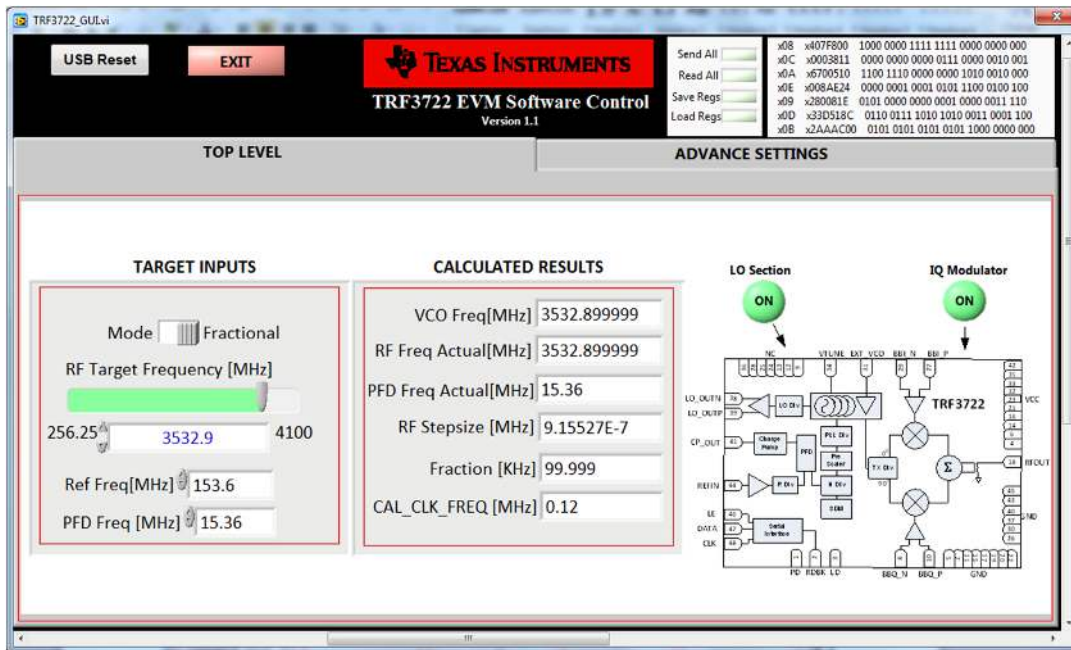
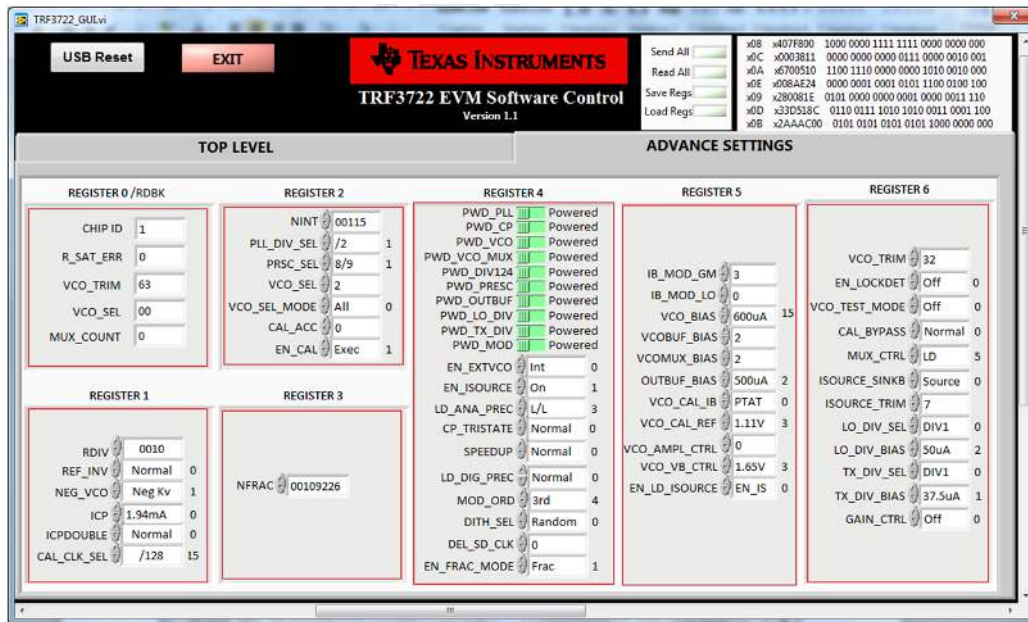

Figure 17. Fractional Mode Loop Filter (a)
Figure 18. Fractional Mode Loop Filter (b)
- Set the GUI as shown in Figure 17 and Figure 18.